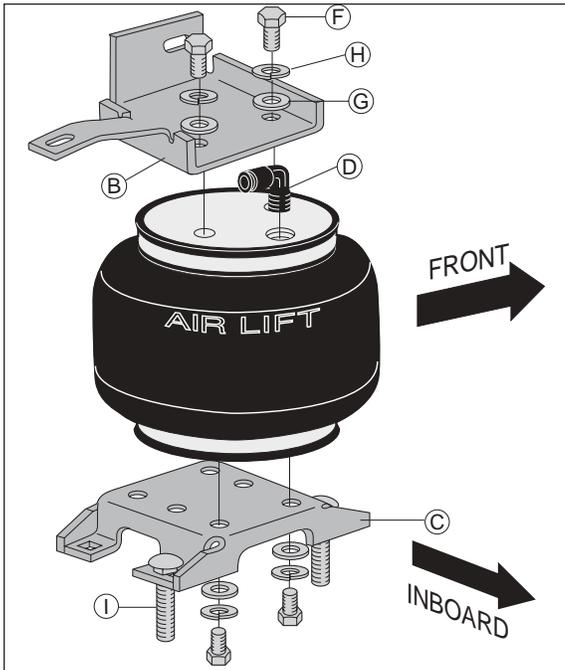

Figure 2
3. Insert two carriage bolts in the lower, inboard holes of the lower bracket before attaching the bellows (Figure 2).
4. Use the lower bracket template provided on page 7 to determine the proper mounting location for the bellow. Use the holes marked "A" for mounting. Attach the lower bracket to the air spring assembly using two bolts (F), two lock washers (H), and two flat washers (G). Torque to 20 ft-lbs.